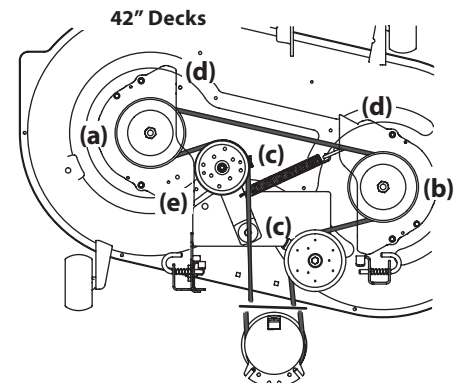
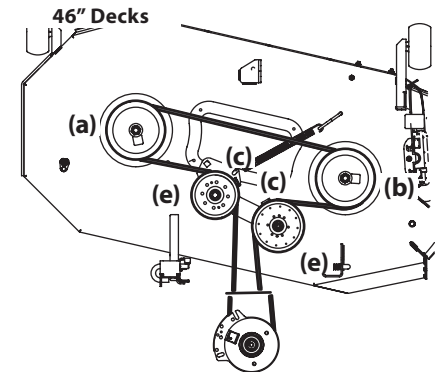
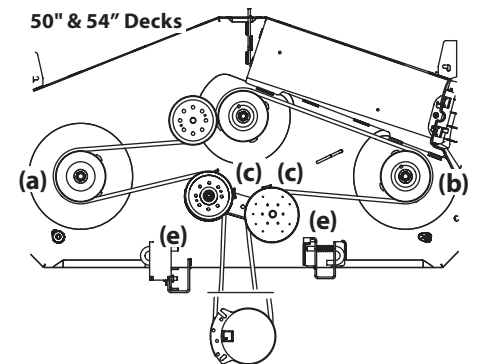

Figure 4-14
Figure 4-15
Figure 4-16
2. Loosen, but do not remove the hardware on the right (a) and left idler pulley (b). Refer to Figure 4-14 for 42" decks, Figure 4-15 for 46" decks and Figure 4-16 for 50" & 54" decks.